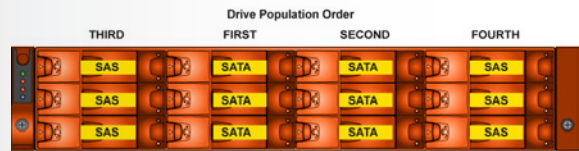

Fig. 59 - Drive Slots Population Order (Drive types [SAS/ SATA] shown are examples only)
- ◆ Different drive types (i.e. SAS and SATA) cannot be mixed in the same column. You must populate a column using all the same drive types. (Fig. 59)
- ◆ For optimum performance drives should be populated in the following sequence order (Fig. 59):